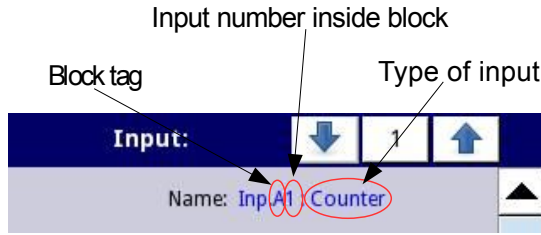

Fig. 7.88. Description of **Name** parameter in **Built-in inputs** menu
- **Name** – each built-in input already has a name given by the device and the user cannot change it, for the description of the **Name** parameter see **Fig. 7.88**.
- **Name** – each built-in input already has a name given by the device and the user cannot change it, for the description of the **Name** parameter see **Fig. 7.88**,
- **Name** – each built-in input already has a name given by the device and user cannot change it, for description of **Name** parameter see **Fig. 7.88**,
- **quad 4** – counter becomes an encoder element used to measure pulses on inputs using quad method. Direction of counter value changes depends on input 1 (2) state (0 - down, 1 – up), and counting take place when on input 2 (1) rising edge appears. Thanks to this method user gains four times higher measurement resolution,